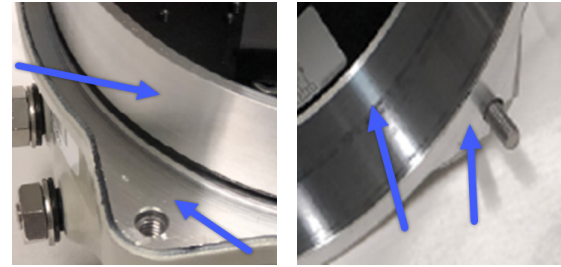

Fig 1 - Flame paths - Do NOT scratch, mar, dig or otherwise damage these surfaces!
5. DO NOT scratch, scar, or deform the flame path of the cover or base of the actuator. (See Fig 1)